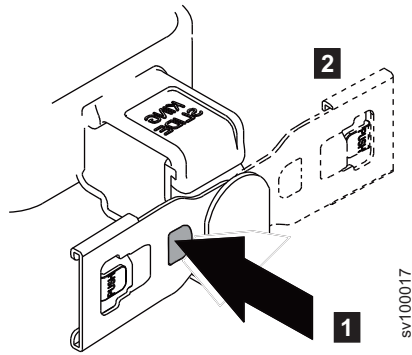

Figure 23. Reversing the orientation of the assembly
- a. Press the button marked **PUSH** in Figure 23 on page 36.